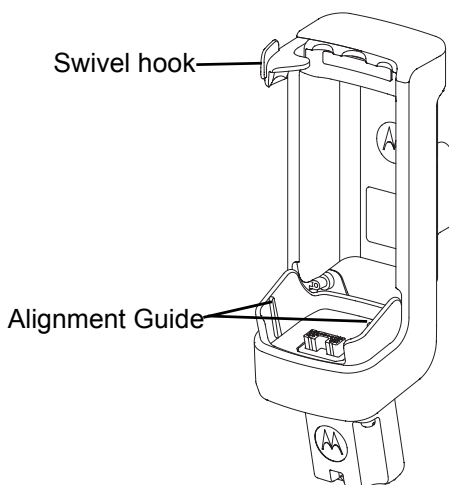

Figure 1. PMLN6182 Charging Cradle with Vehicular Power Module.
1. Place the TETRA Handportable Terminal in the cradle/holder by aligning the slots on the lower side of the TETRA Handportable Terminal with the alignment guides located at the bottom of the cradle/holder as shown in Figure 1 below.
1. Push the swivel hook clockwise to release. (See Figure 1 on page 3).